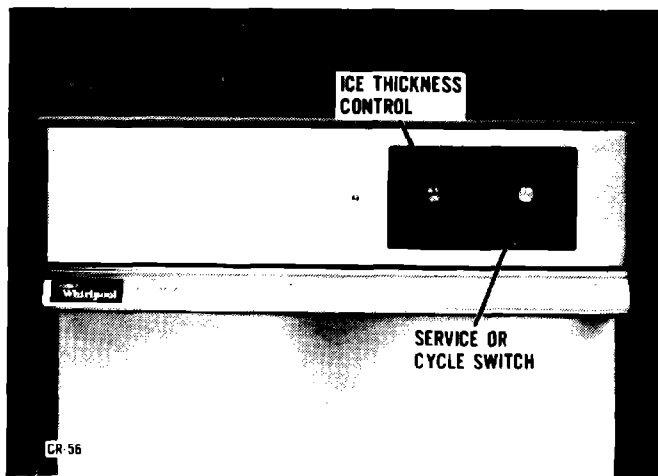

FIGURE 1 — SERVICE SWITCH
Your ice maker has been pre-set to produce ice approximately 13 mm ($\frac{1}{2}$ ") thick. The thickness can be increased or decreased by resetting the thickness control, Figure 1, however best performance will be obtained at the 13 mm ($\frac{1}{2}$ ") thickness.
1. Place service switch, **Figure 1**, in off position.